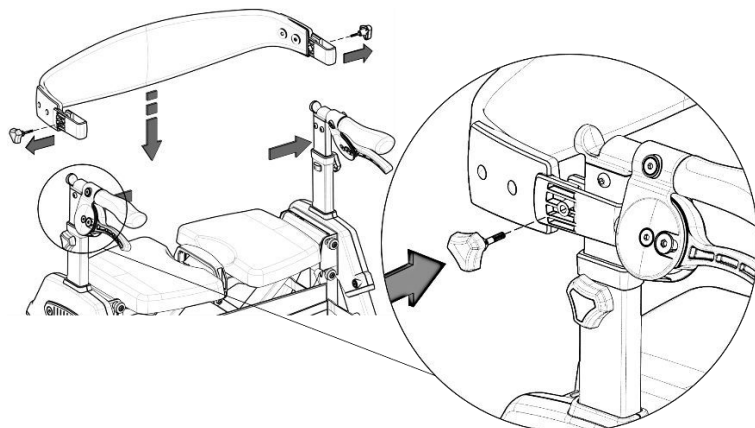

FIGURE 2
2. Unscrew knobs from back strap and snap onto handle arms, retighten as shown in **FIGURE 2**.